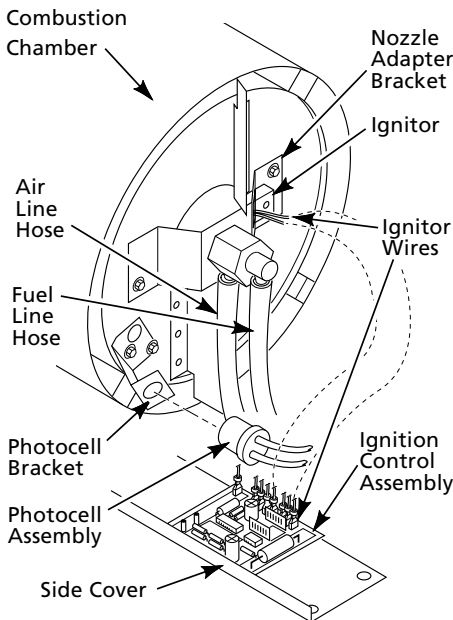

Figure 16 - Disconnecting Ignitor Wires from Ignition Control Assembly
4. Disconnect ignitor wires (yellow for 3E218E and 3E219E, gray for 2E510F and 2E511F) from ignition control assembly (See Figure 16). Pull the ignitor wires up through the hole in the lower shell.
5. Disconnect fuel line hose and air line hose. Remove photocell from photocell bracket (See Figure 16).